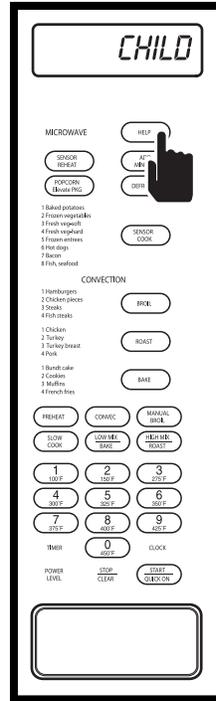

Figure 3-60.
1. Press HELP key (See Figure 3-60), the display will flash the Help Features as listed above.